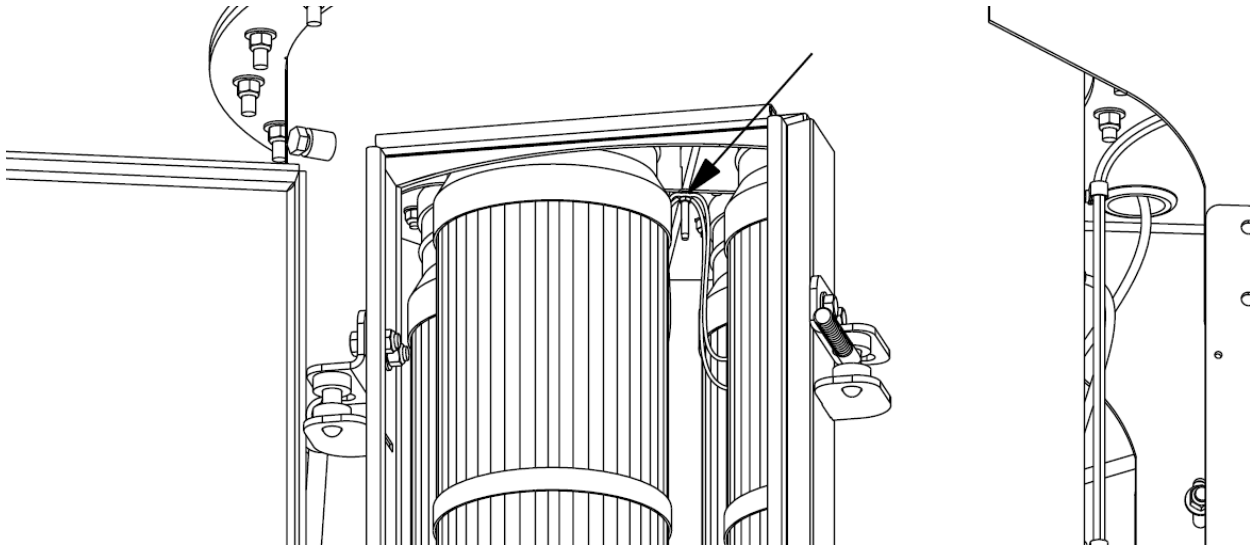

Figure 7-21: Grounding strip temporary removal
9. Position the grounding strip of each filter onto the grounding post and secure all grounding strips in place with a nut, refer to **Figure 7-21**.